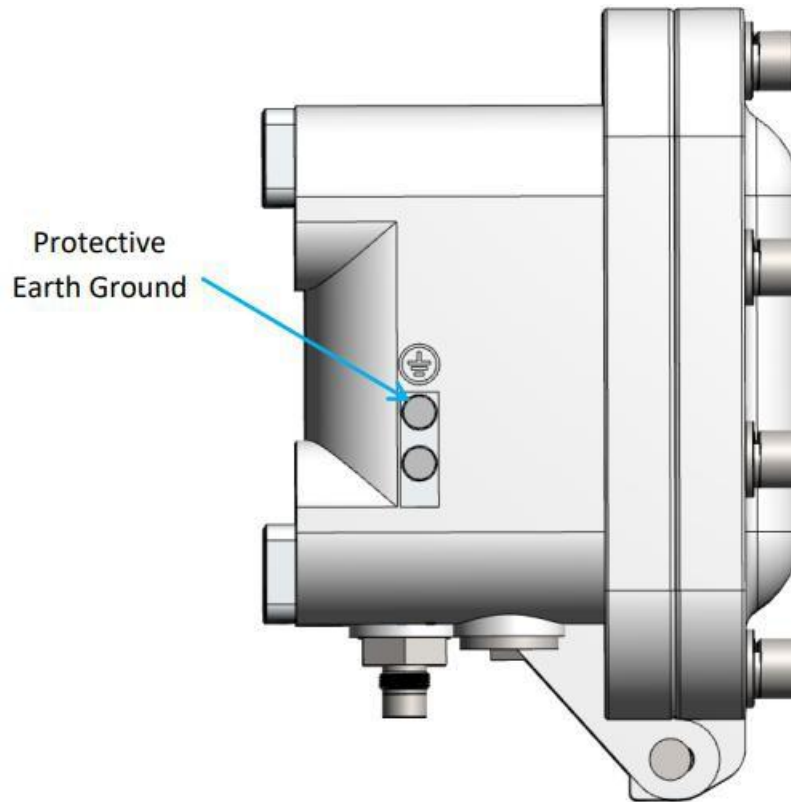

Figure 8: KONA Macro Ex Gateway PE Ground Connection Location
The KONA Macro Ex Gateway requires a permanently connected Protective Earth (PE) Ground conductor. The Protective Earth Ground connection is made through a double hole lug to the termination point located on the side of the enclosure as illustrated in Figure 8. The cable lug must have 6.35 mm ϕ holes on 16 mm centers (0.25" ϕ on 0.63" centers). The required ground cable gauge is #10 AWG (4 mm²) minimum. This ground connection to earth is always required.